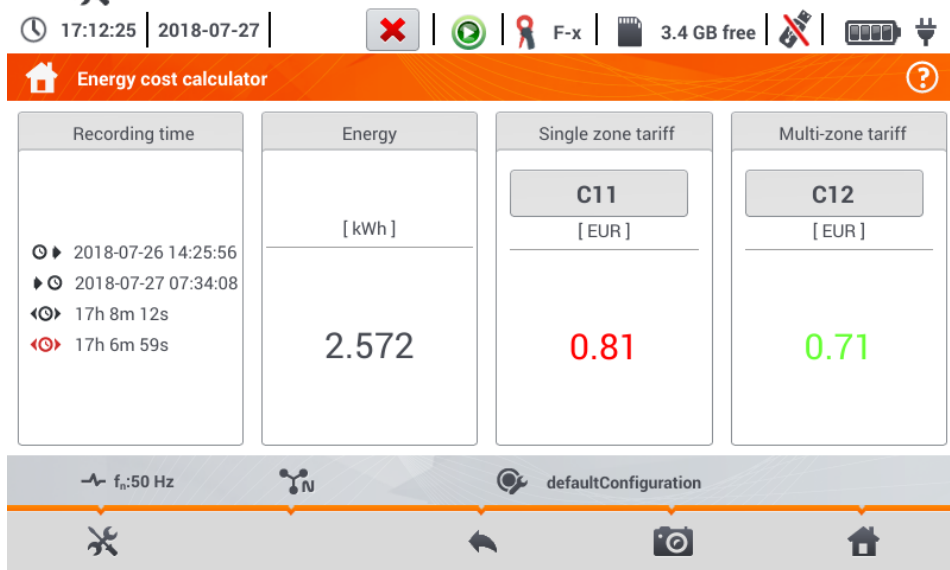

Fig. 5.28. Screen with indications of the energy cost calculator
When the parameters recorded by the recorder include active energy E_P , it is possible to calculate the energy costs according to the cost calculator set by the user. To enter the screen of the energy cost calculator, use the bar on the recording summary window (section 5.7 step ③) and select icon . The screen with energy costs will be displayed as shown in Fig. 5.28. The following sections present: